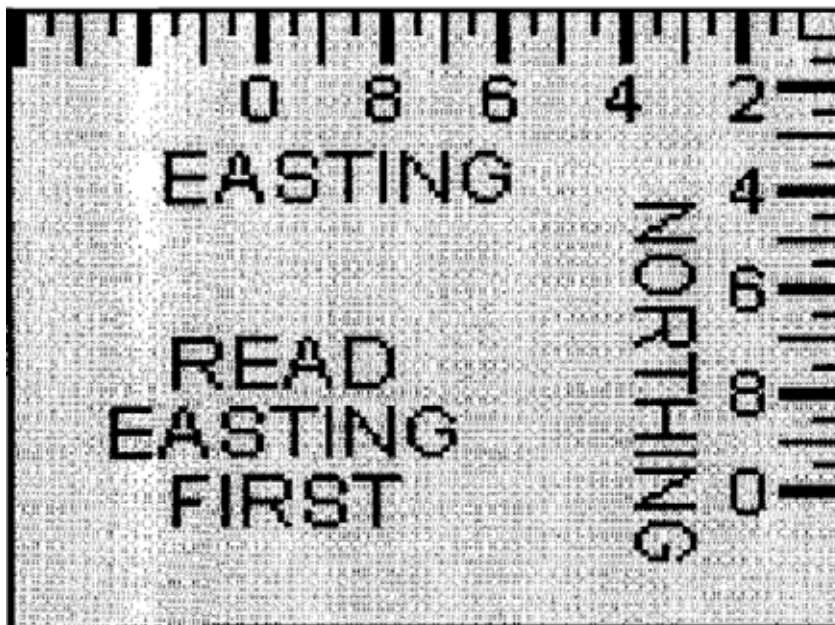

Figure 17 Constructed Romer
A constructed romer requires a piece of paper with at least one square corner and the scale bars of the topographical map. Using the scale bars of the topographical map, a romer can be constructed as illustrated in Figure 17.
5. repeating Steps 2–4 on the adjacent edge (eg, completed romer as illustrated in Figure 17).